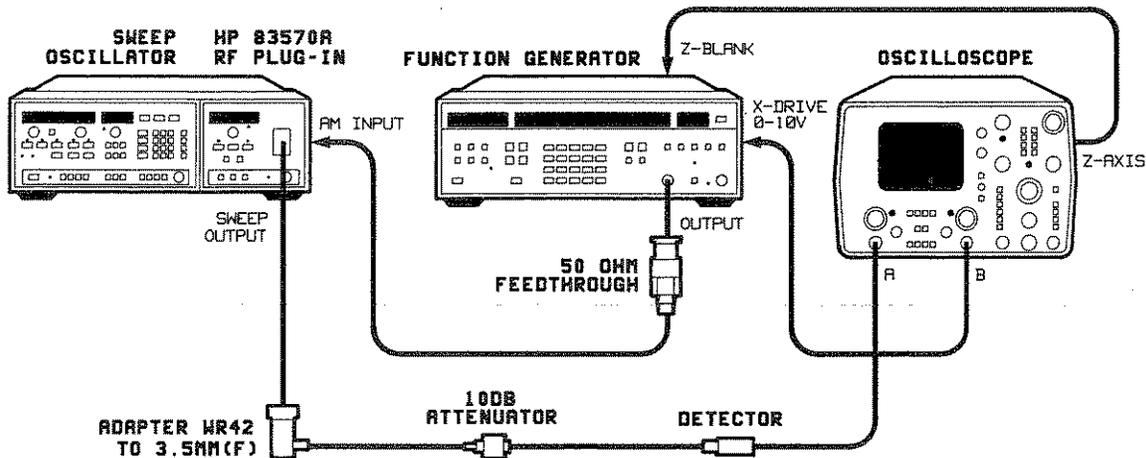

Figure 5-25. ALC Gain Adjustment Test Setup
1. Connect equipment as shown in Figure 5-25. Allow 30 minutes for warm-up.